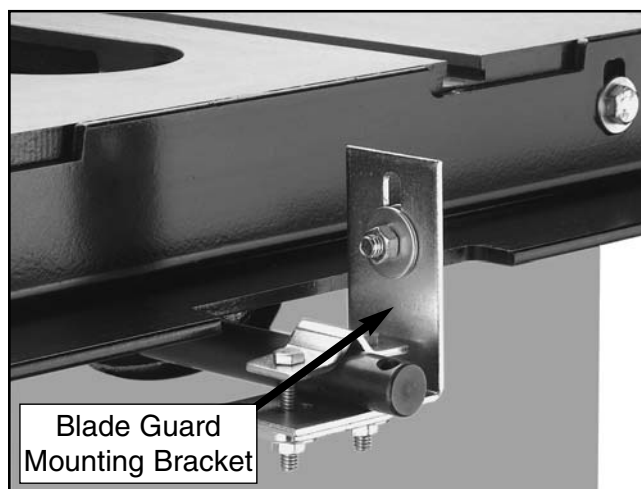

Figure 13. Blade guard mounting bracket
3. Slide the loosely assembled bracket onto the blade guard mounting shaft and temporarily hand tighten the nuts as shown in **Figure 13**.